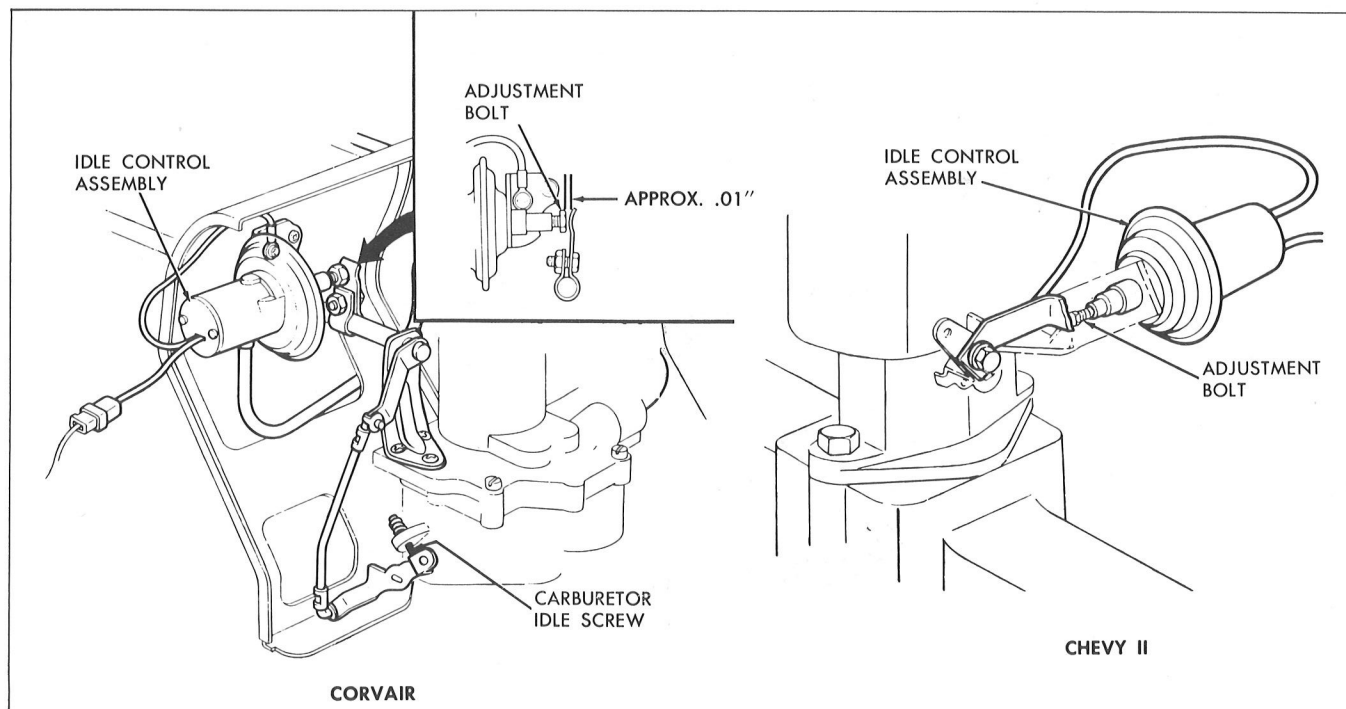

Fig. 4—Installation of Idle Control Unit
Figure 4 illustrates the installation of the idle control on both Corvair and Chevy II vehicles. Adjustment is made as follows:
1. With Air Conditioning unit not operating and idle speed correctly adjusted as outlined in the appropriate Shop Manual, turn the idle speed control adjustment bolt to obtain approximately .01" clearance between the bolt head and the throttle tang as shown in Figure 4.